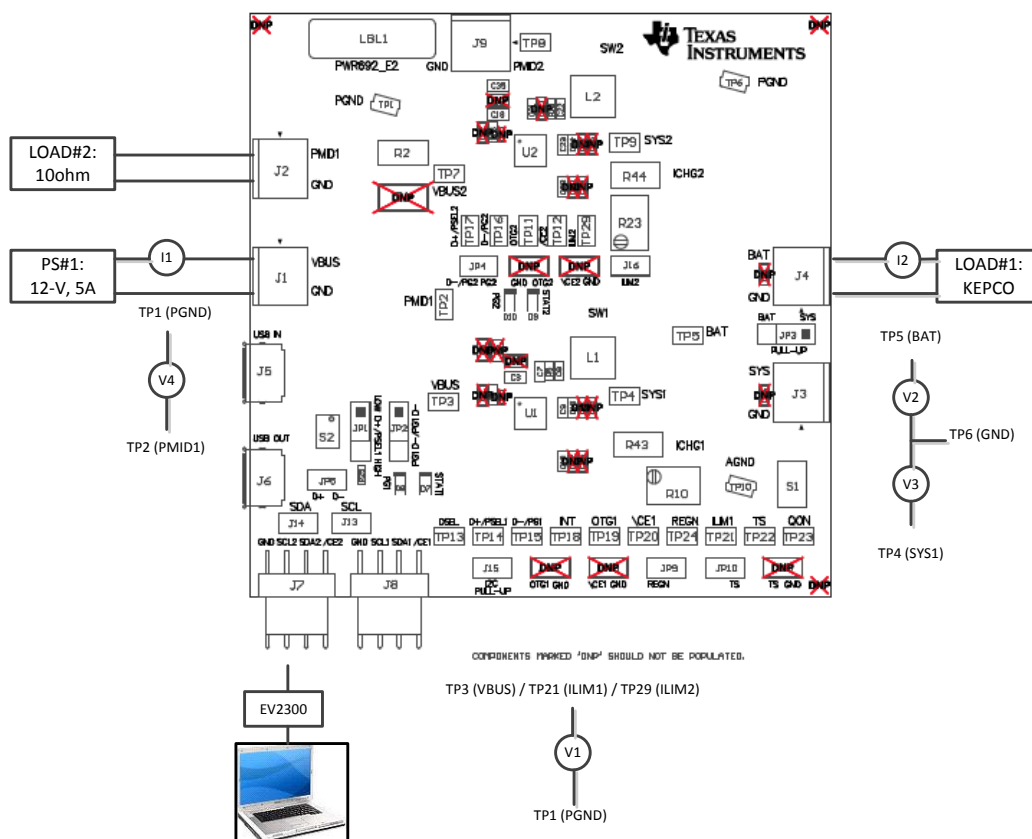

Figure 2. Original Test Setup for PWR692 (bq2589x EVM)
3. Turn on the Load, set to constant voltage mode and output to 2.5 V. Turn off (disable) Load. Connect Load in series with current meter #2 to J4 (BAT+ and GND) as shown in Figure 2.
8. Connect the EV2300 USB interface board to the computer with a USB cable and from I2C port to J7 with the 4-pin cable. The connections are shown in Figure 2.